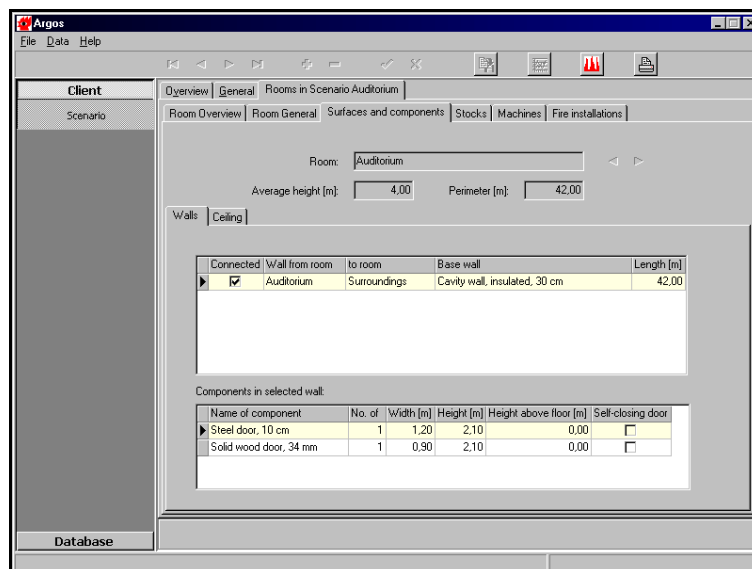

Figure 4.4: The Surfaces and components tab –Walls subtab.
4. Proceed to the *Surfaces and components* tab. On the *Walls* subtab, enter the doors (components) in the walls between the room and the surroundings, as shown in figure 4.4.